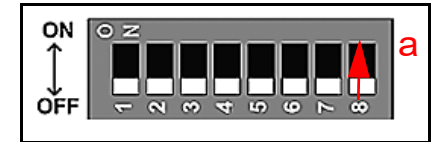

Figure 4 DIP Switch SW1
2. Place the iVIZION Unit in Performance Mode by turning DIP Switch SW1 Switch 8 ON (Figure 4 a). DIP Switch SW1 is located on the Validation CPU Board found on the underside of the iVIZION Transport Assembly.